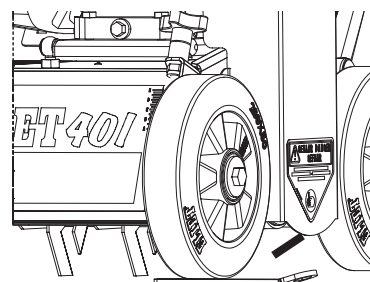

fig. 2
5. Place the tool under one of the front wheels. (figure 2)